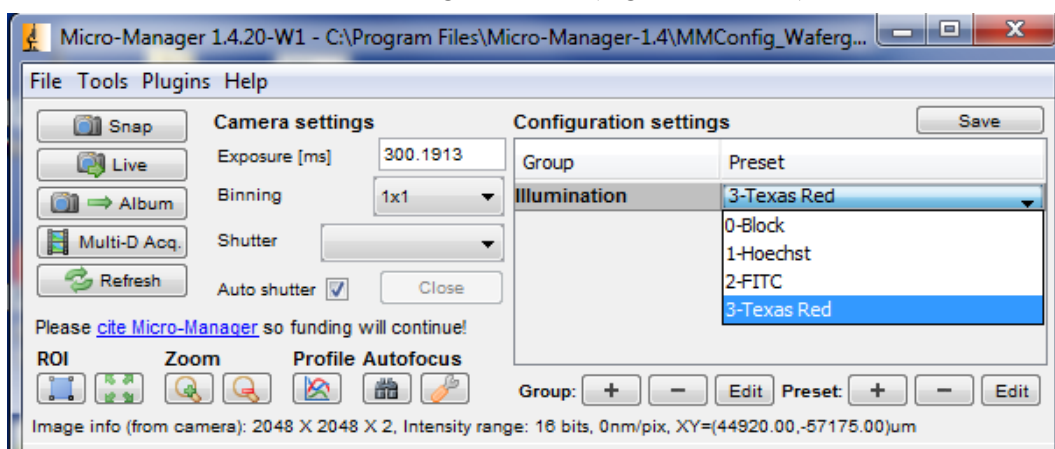

Figure 19. Setting the illumination channel to Texas Red.
12. In the *Main* window, under “Configuration settings”, select **3-Texas Red** as the illumination channel for examination of fiducial-containing nanowells (Figure 19, below).
- a. In the *Main* window, under “Configuration settings”, select **1-Hoechst** as the illumination channel for examination of Hoechst-stained cells (Figure 19, above).